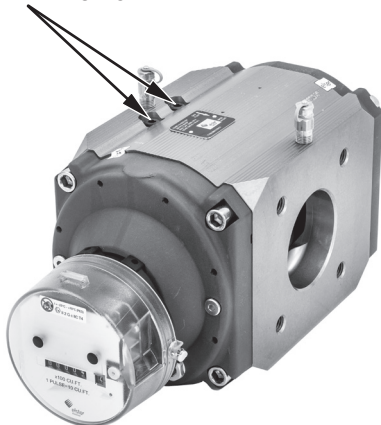

Figure 18. Auxiliary ports
All RABO meters come equipped with two (2) 1/4" NPT auxiliary ports on the meter body (Figure 18), which can be used for sensing pressure and temperature of the flowing gas. A thermowell is required when using a temperature sensing device. Thermowells are available as accessories to the meter.